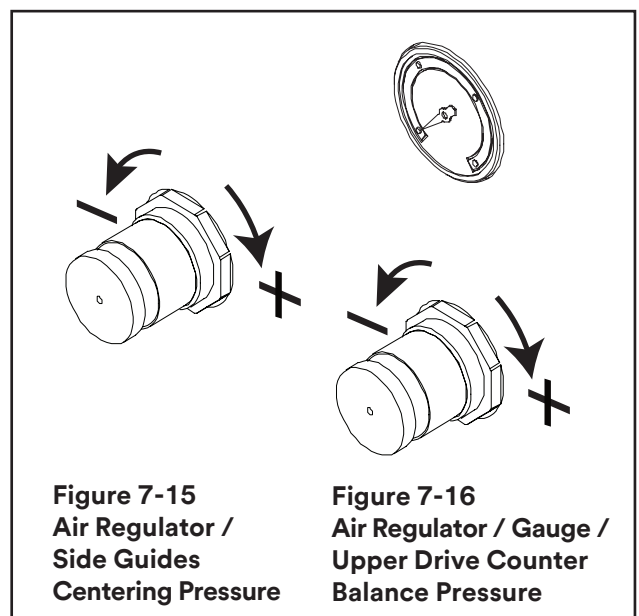

Figure 7-15
6. Air Pressure Regulator, Centering Guide Force Adjustment – Figure 7-15